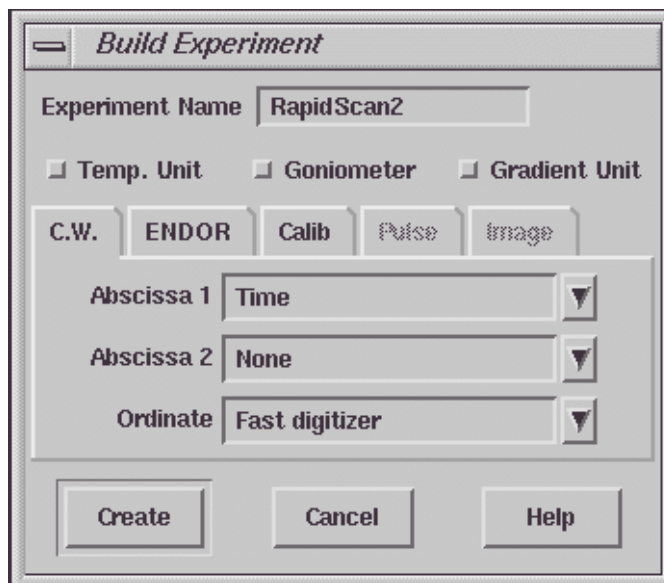

Figure 6-1 Creating a time scan experiment.
1. **Create a time scan experiment using the fast digitizer.** Click New Experiment and select the CW sub-folder. In the Abscissa 1 drop-down list, select Time. Select Fast digitizer in the Ordinate drop-down list. Click Create to close the dialog box. (See Figure 6-1.)